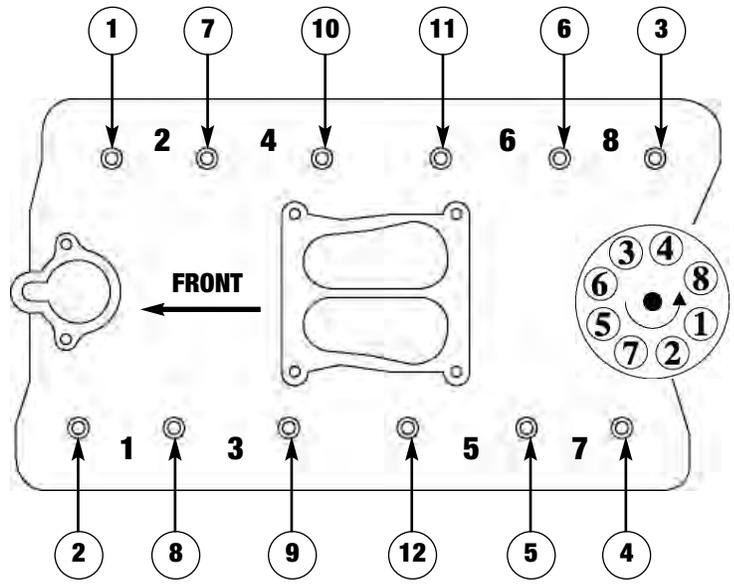

Figure 1 - 400-455 c.i.d. Oldsmobile Intake Manifold Bolt Tightening Sequence and Firing Order
5. Torque all of the manifold bolts in two steps by the sequence shown in **Figure 1** to 25 ft./lbs.